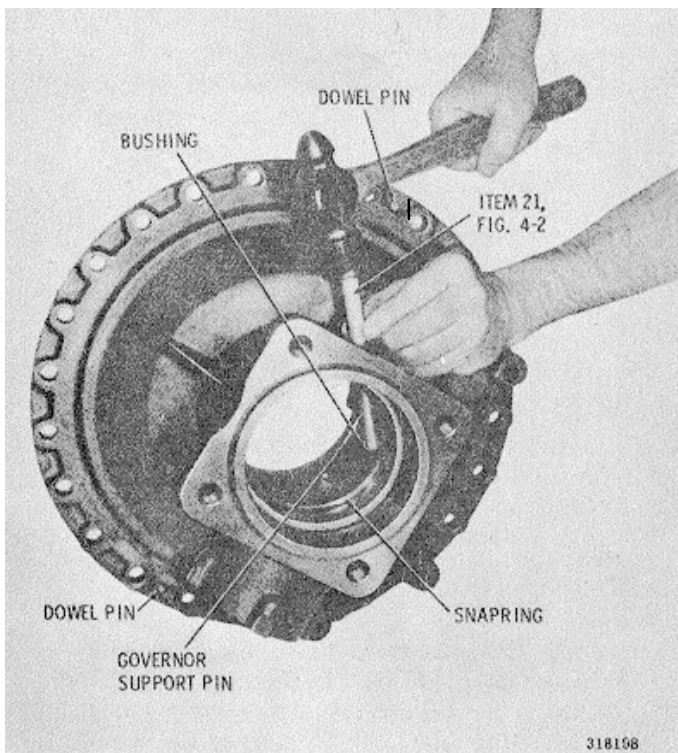
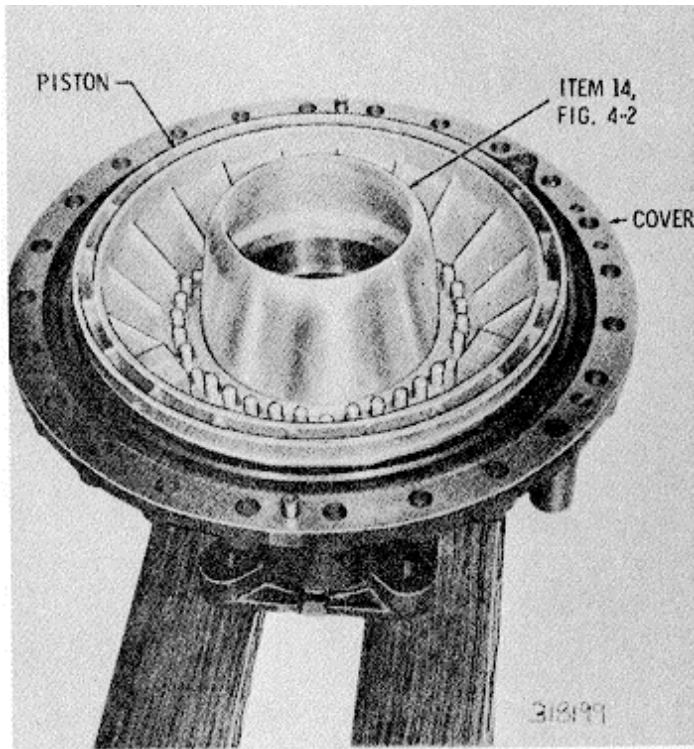

Fig. 6-55. Installing speedometer driven gear bushing.
Fig. 6-57. Installing piston into rear cover
(1) If removed, replace the dowelpins in the mounting face of the rear cover (fig.6-55). The dowel pins project 0.360 to 0.400 inch (9.15 to 10.16 mm) above the face of the cover.
(2) If removed, install the bearing front snapping into the rear cover (Fig. 6-55) Install plugs, if removed, into the rear cover.
(4) If removed, install a new speedometer driven gear bushing (Fig. 6-55). Use installer 21 (Fig. 4-2) to seat the bushing in the rear cover.
(5) Lubricate sealrings 5 and 6 (A, foldout 16) with transmission fluid, and install them into the grooves of piston 4. The lip of each sealring must face the rear of the piston (toward piston cavity in rear cover).
(6) Using inner seal protector 12 (fig.4-2), carefully install the piston into the rear cover (Fig. 6-57). Use extreme care to prevent the lip of either seal folding back over itself. If installation is difficult, remove the piston and check the seal and cover bore before again attempting installation.
(4) Remove the spring retainer and 28 springs from the piston (Fig. 6-55).
(5) If replacement is necessary, remove dowel pins 11 and 12, and orifice plug 13 (A, foldout 15) from adapter housing 10.